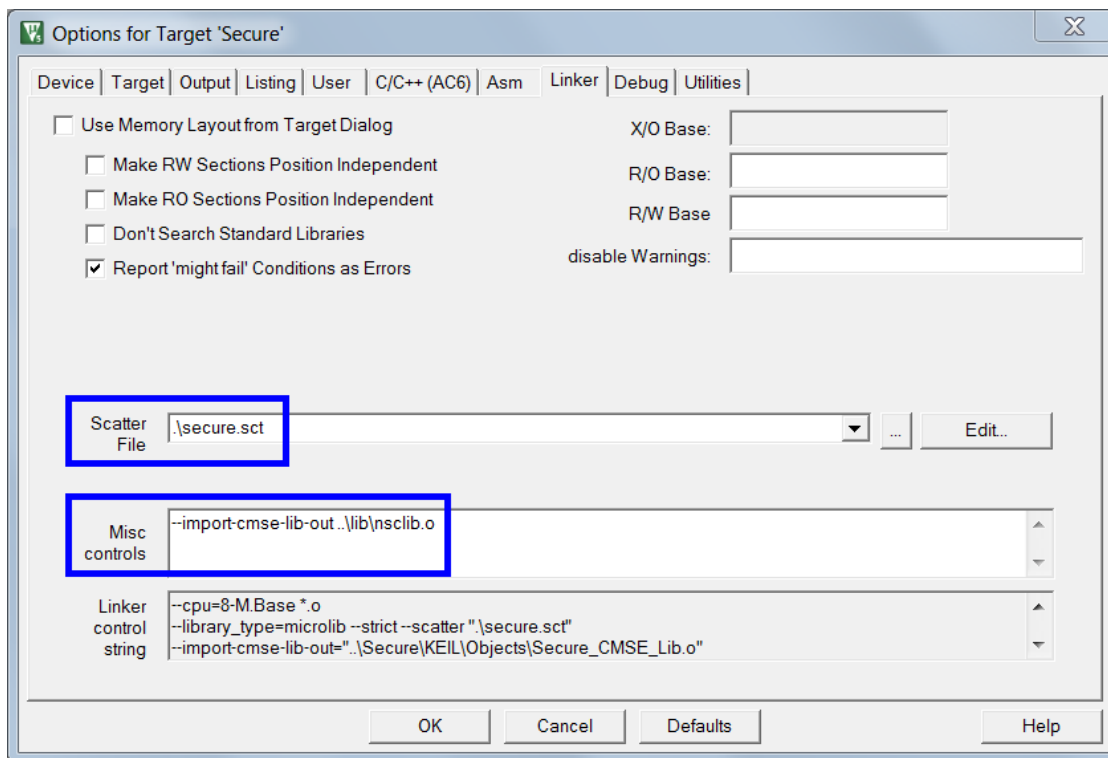

Figure 2-3 Specify Scatter File and Misc Controls in Keil® MDK
- Click [Options for Target – Linker] as shown in Figure 2-3.